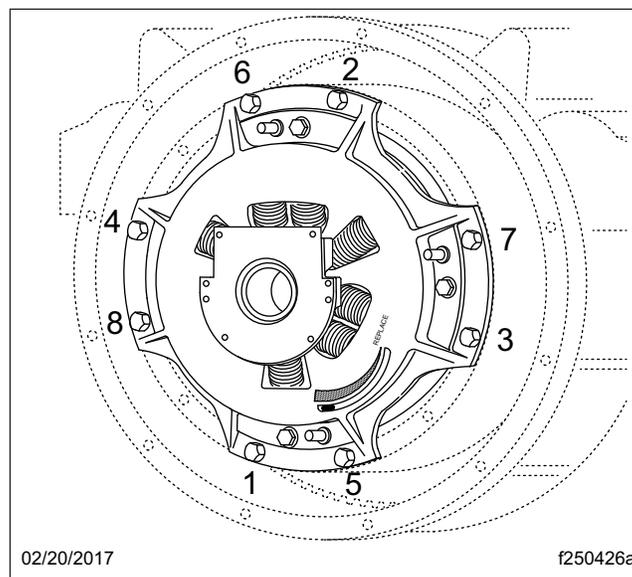

Fig. 9, Tightening Sequence
7. Progressively tighten the mounting bolts in a crisscross pattern starting with the lower left bolt. Torque to 45 lbf-ft (61 N·m). See **Fig. 9**.